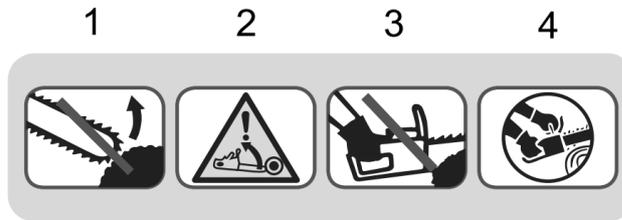

Fig. 1
- How to read symbols and colors (Fig. 1)